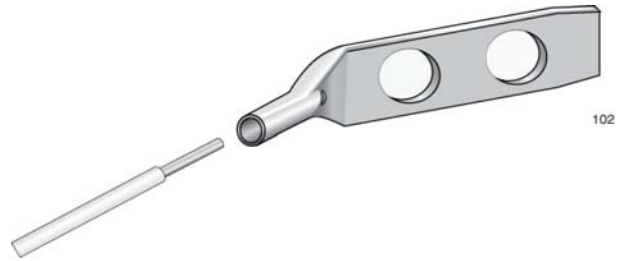

Figure 57. Attaching the Grounding Wire to the Grounding Lug
3. Insert one end of the grounding wire into the grounding lug, as shown in Figure 57, and use a crimping tool to secure the wire to the grounding lug.